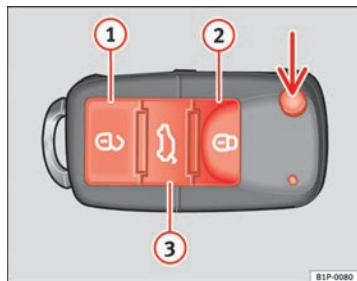

Fig. 42 Assignment of buttons on the remote control key
Using the button \Rightarrow fig. 42 (arrow) on the control, the key shaft is released.
Unlocking the vehicle \Rightarrow fig. 42 ① .
Locking the vehicle \Rightarrow fig. 42 ② .
Unlocking the rear lid. Press button \Rightarrow fig. 42 ③ until all the turn signals on the vehicle flash briefly. When the unlocking button \Rightarrow fig. 42 ③ is pressed, you have 2 minutes to open the door. Once this time has passed, it will lock again.
- Press the  button  ⇒ page 76, fig. 42 on the remote control.